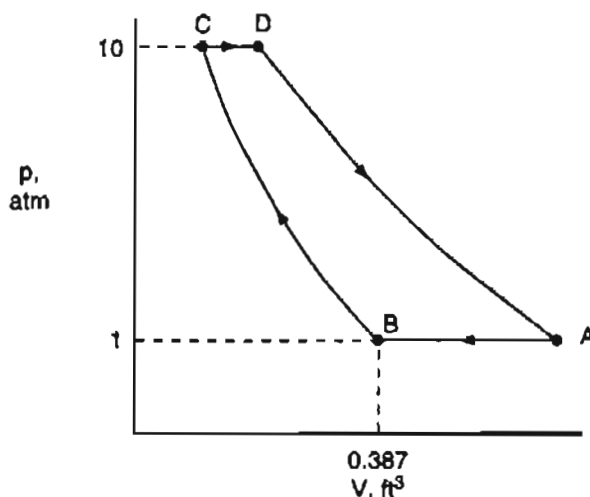

Figure P22.13
- ***22.13** A quantity of an ideal gas goes through the ideal cycle shown in Figure P22.13. Calculate: